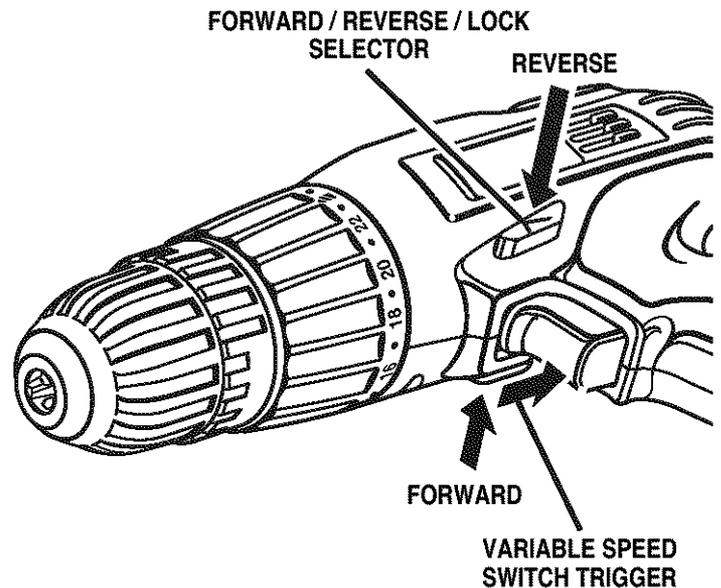

Fig. 2
See Figure 2.
- Lock switch trigger on the drill by placing the direction of rotation selector in center position. See Figure 2.
- Lock switch trigger or the drill by placing the direction of rotation selector in center position. See Figure 2.